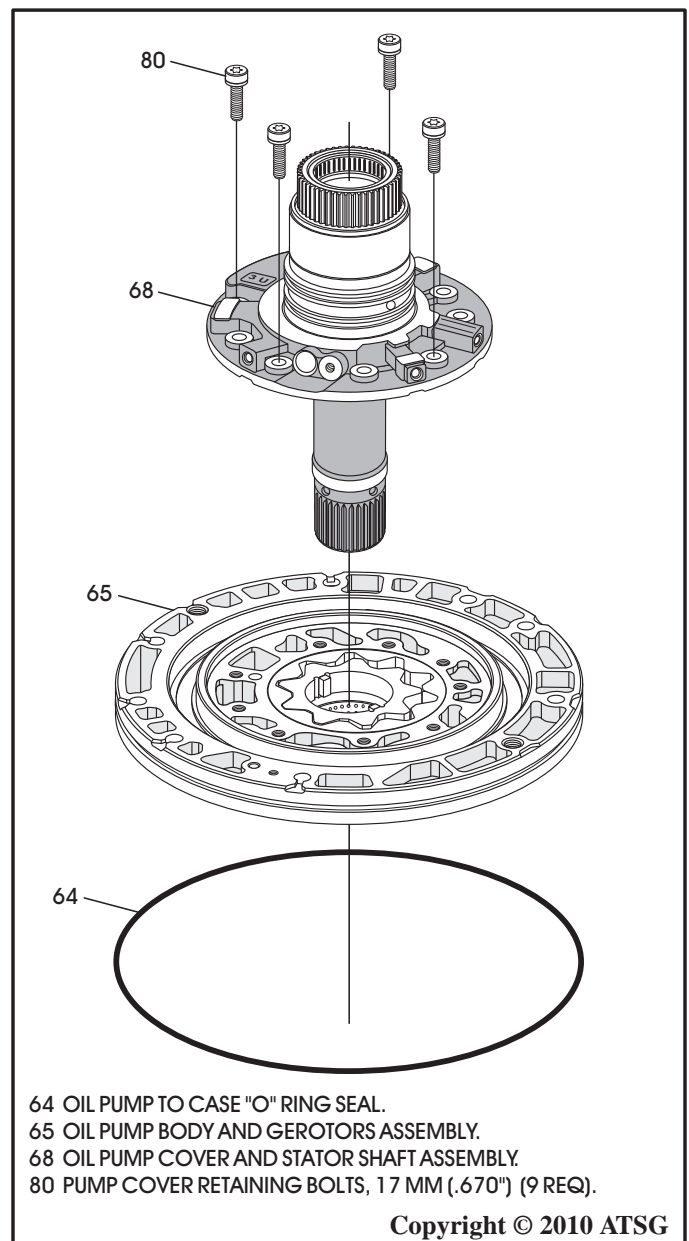

Figure 160
12. Install the pump cover into the pump body, as shown in Figure 160, using only four bolts in the locations shown and hand tighten only. **Note:** The remaining 5 bolts also retain the B1 clutch return spring assembly.
13. Install new oil pump body to case "O" ring seal, as shown in Figure 160.